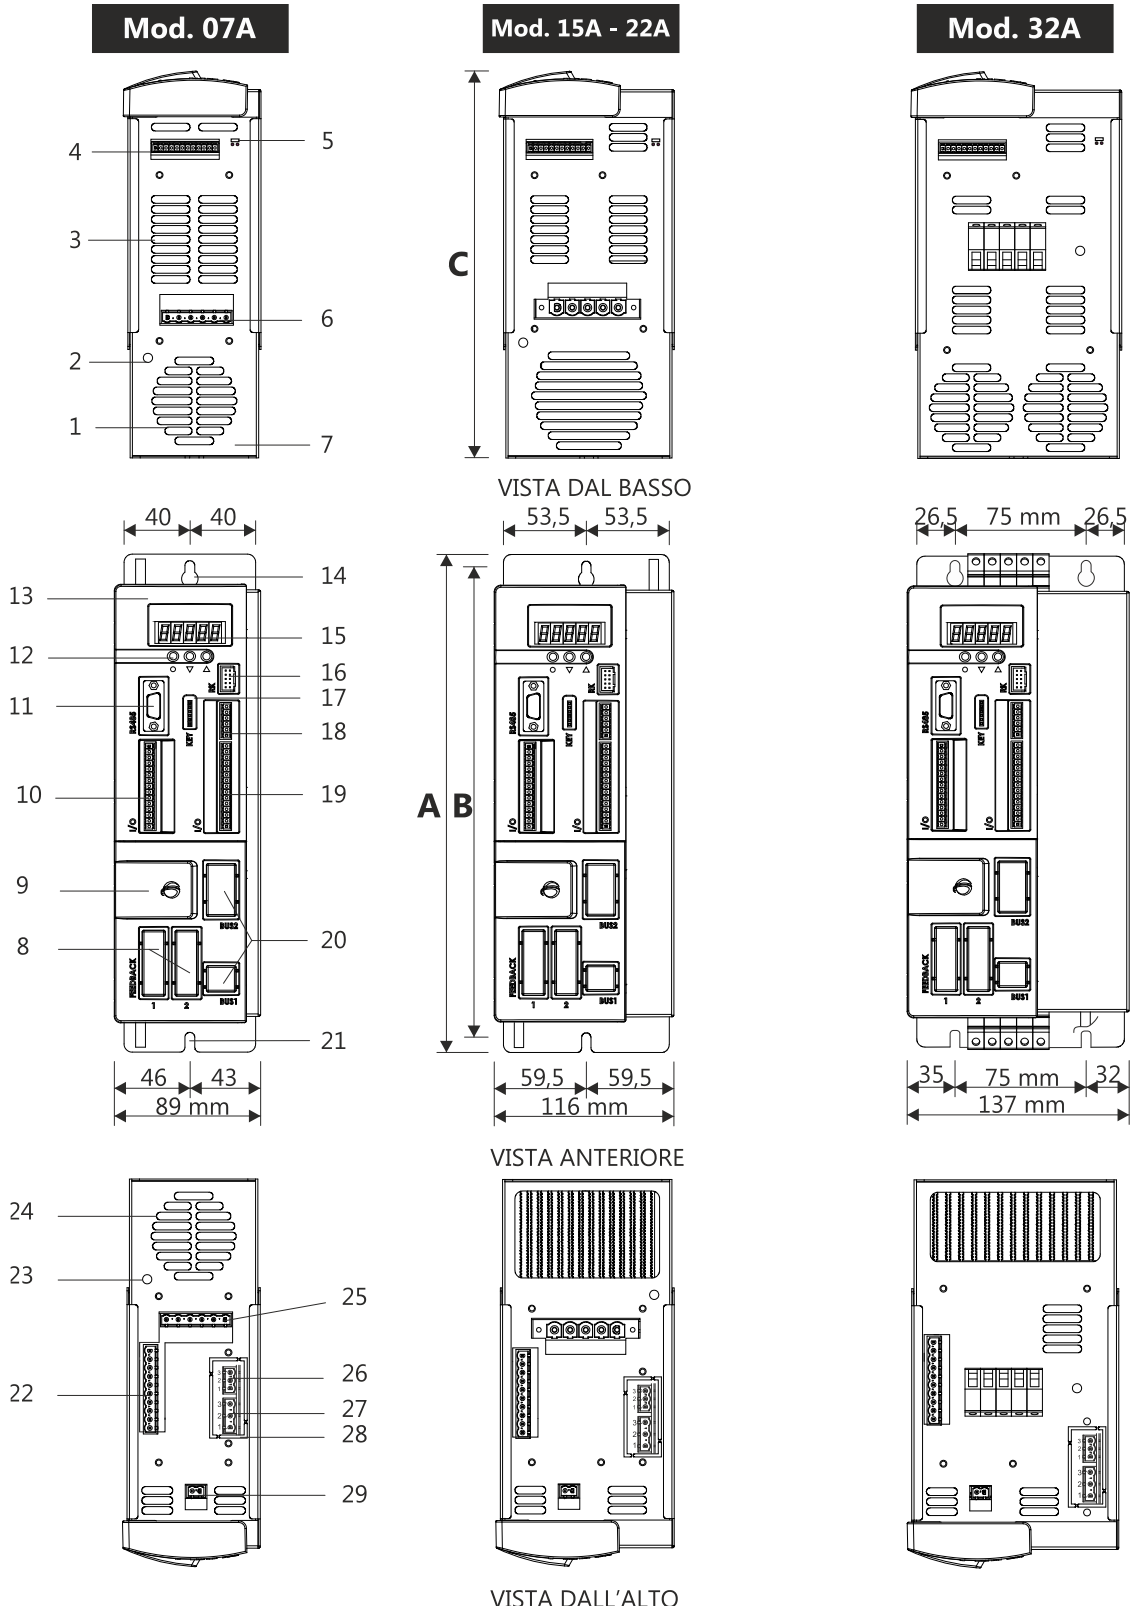
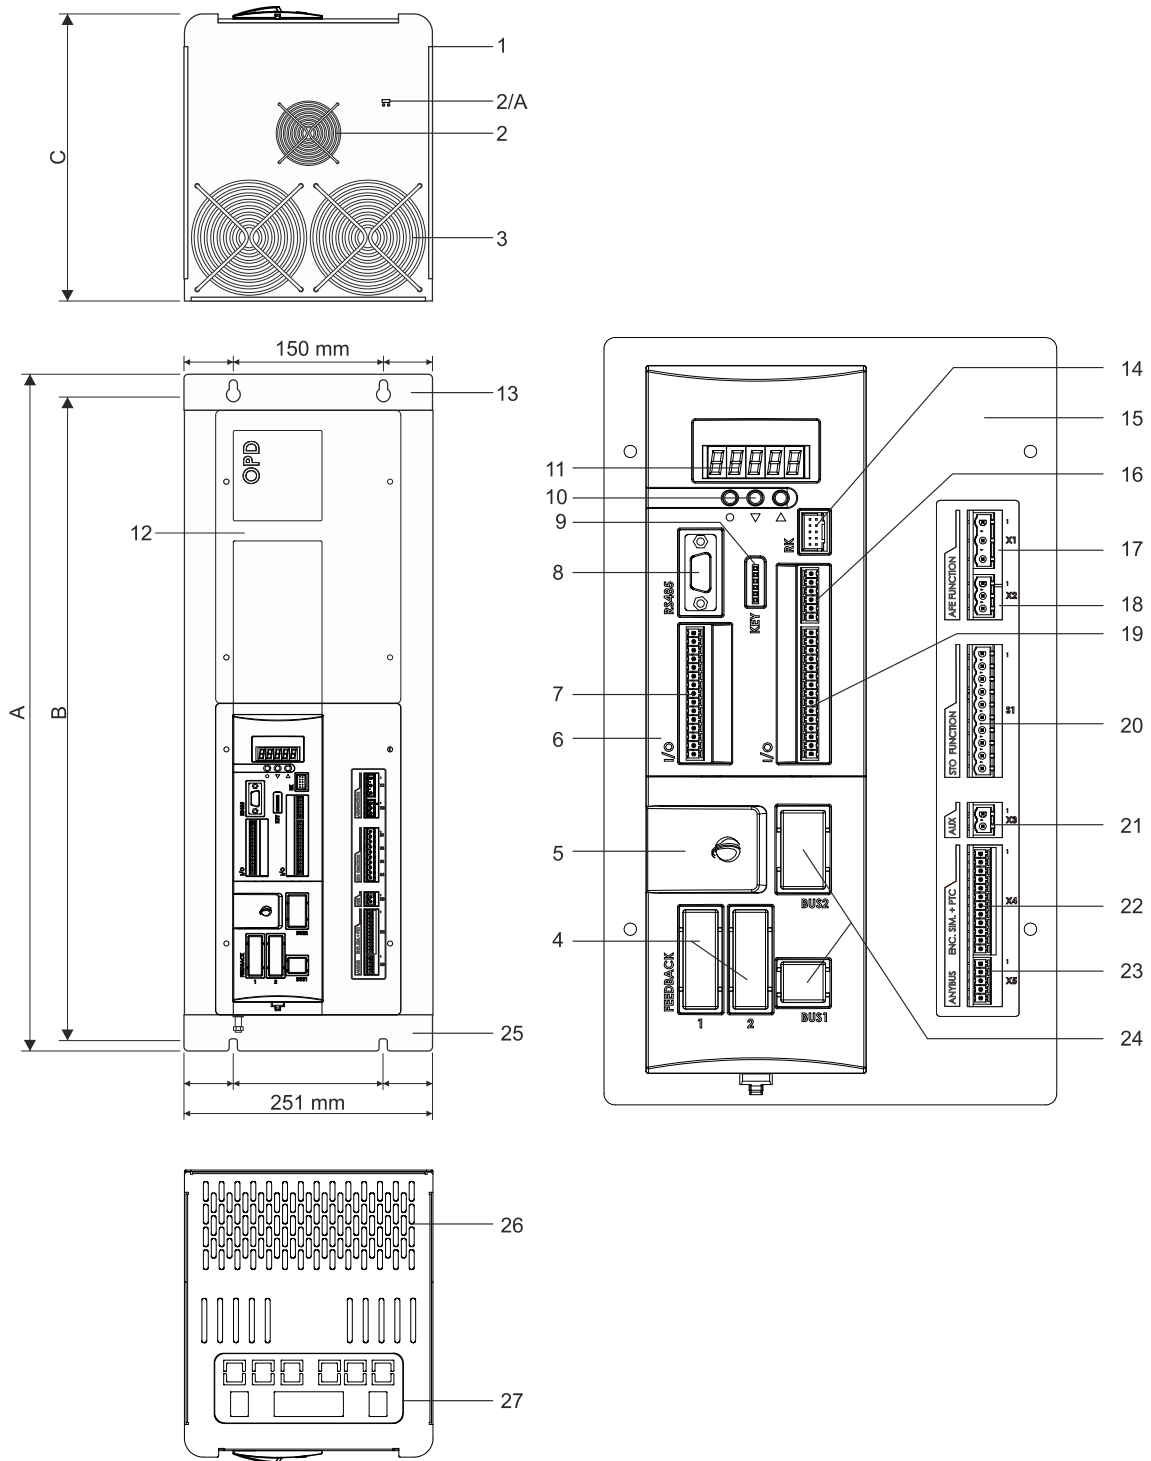

FIG. 3A – Name of the components OPDE S 7, 15, 22, 32
FIG. 3C – Name of the components OPDE S 70, 90, 110 and 150
FIG. 3A, FIG. 3B, FIG. 3C, FIG. 4, FIG. 5, TAB. 3A, TAB. 3B, TAB. 3C, TAB. 3D, TAB. 3E represent and show the names of the main components and the overall dimensions of the OPDE AFE ENERGY converter.
**LEGEND FIG. 3A:**